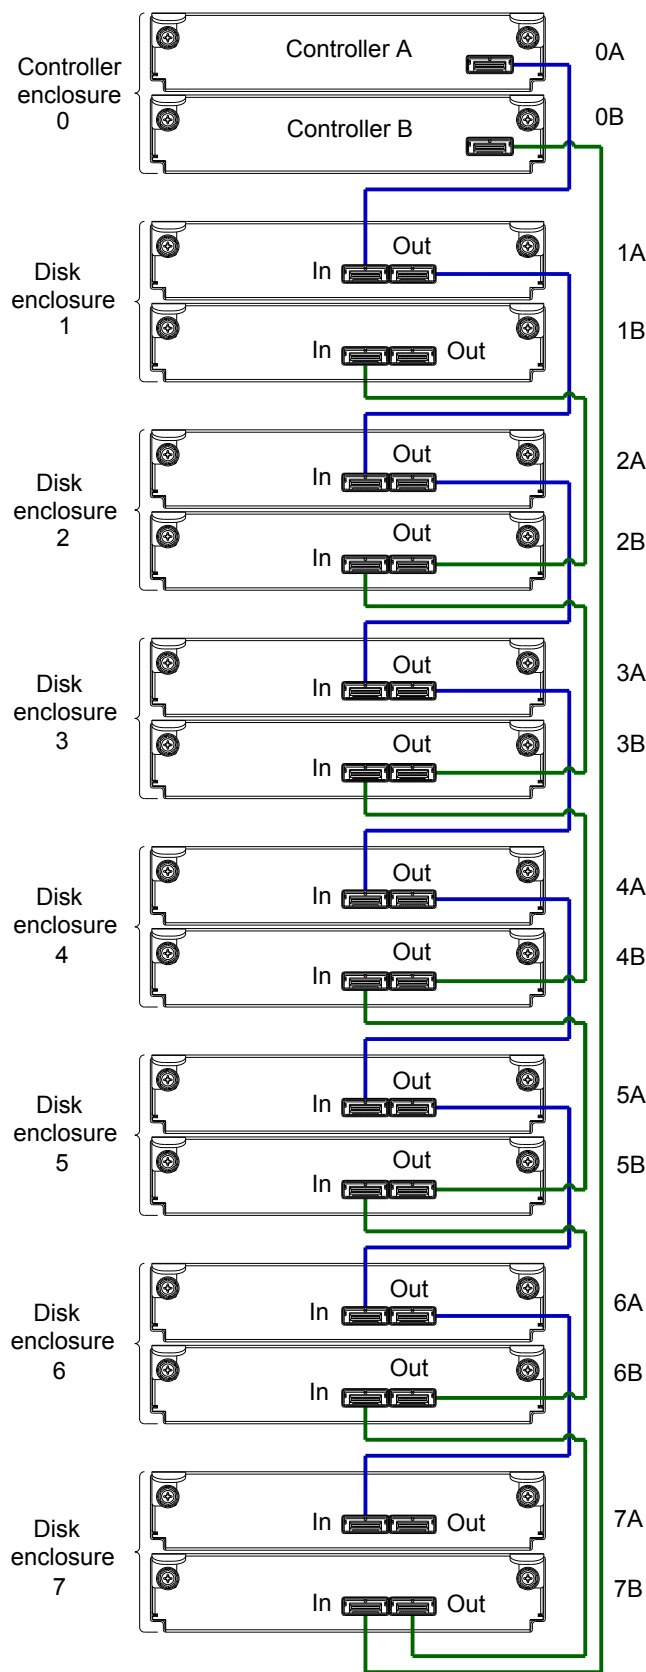

**Figure 9** Fault-tolerant cabling between a dual-controller enclosure and four drive enclosures
For example, Figure 9 on page 12 shows reverse cabling wherein controller 0A (i.e., enclosure-ID = 0; controller-ID = A) is connected to expansion module 1A, with a chain of connections cascading down (blue). Controller 0B is connected to the lower expansion module (B) of the last drive enclosure in the chain, with connections moving in the opposite direction (green). Several cabling examples are provided on the following pages.
The diagram at left in Figure 9 shows reverse cabling of a dual-controller enclosure and QX 24-Drive Expansion Module/QX 12-Drive Expansion Module 6 Gb drive enclosures configured with dual-expansion modules. Controller module 0A is connected to expansion module 1A, with a chain of connections cascading down (blue). Controller module 0B is connected to the lower expansion module (4B), of the last drive enclosure, with connections moving in the opposite direction (green). Reverse cabling allows any drive enclosure to fail—or be removed—while maintaining access to other enclosures.
The diagram at right in Figure 9 shows the same storage components connected using straight-through cabling. Using this method, if a drive enclosures fails, the enclosures that follow the failed enclosure in the chain are no longer accessible until the failed enclosure is repaired or replaced.